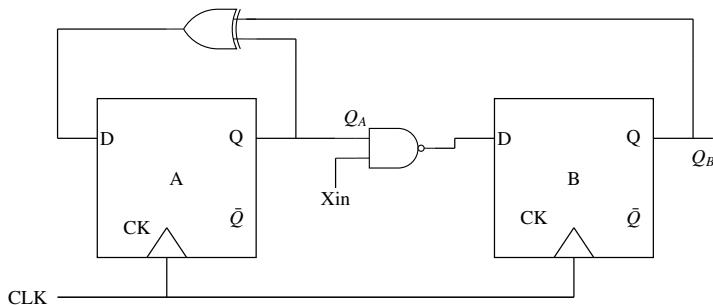

Fig. 6.10
5. A finite state machine (FSM) is implemented using the D flip-flops  $A$  and  $B$ , and logic gates, as shown in Fig. 6.10 below. The four possible states of the FSM are  $Q_A Q_B = 00, 01, 10$  and  $11$ . Assume that  $X_{IN}$  is held at a constant logic level throughout the operation of the FSM. When the FSM is initialized to the state  $Q_A Q_B = 00$  and clocked, after a few clock cycles, it starts cycling through                   (GATE EC 2017)